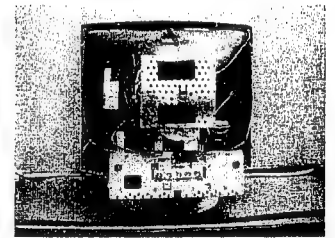
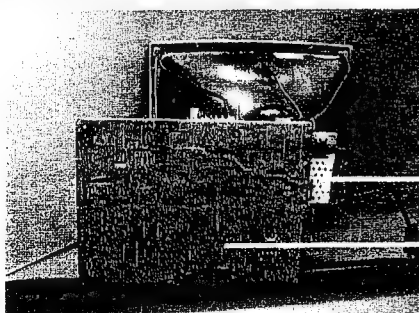
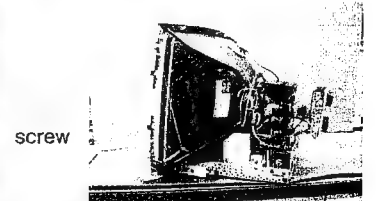

Fig. 6
Fig. 1 Service Position
Fig. 8
To be able to perform measurements and repairs on the "circuit boards", the monitor should be placed in Service Position (fig. 1) first:
Step 4: To remove the 16 screws on the metal shield, and remove the metal shield, you can see FIG.6.
- After remove the back cover & metal shield, you can see the inside of the monitor as Fig. 6.
- To remove 13 screws for service position as Fig. 6 to Fig. 8.
- To slide out Main panel as Fig. 1.
To get service position as Fig. 1 through Fig. 2 to Fig. 8.